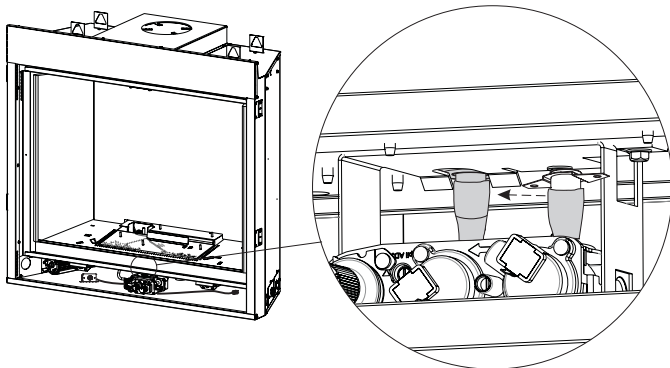

Figure 3
5. Install thermo disc by snapping into valve bracket burner assembly. See Figure 3.